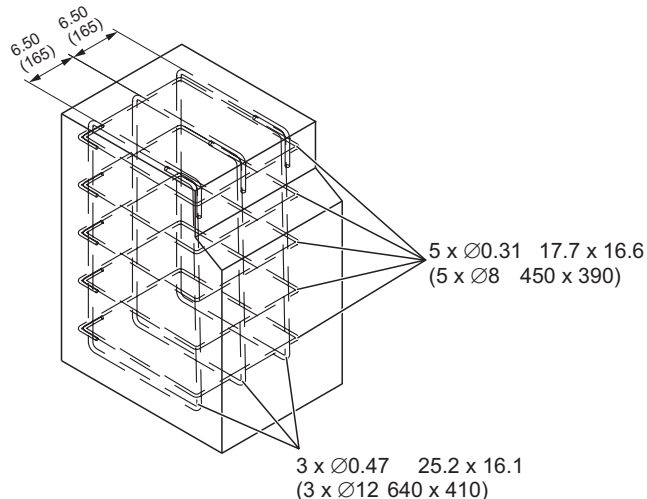

Fig. 16: Reinforcement grid
2. Place reinforcement grid pursuant to Fig. 16 in the foundation hole.